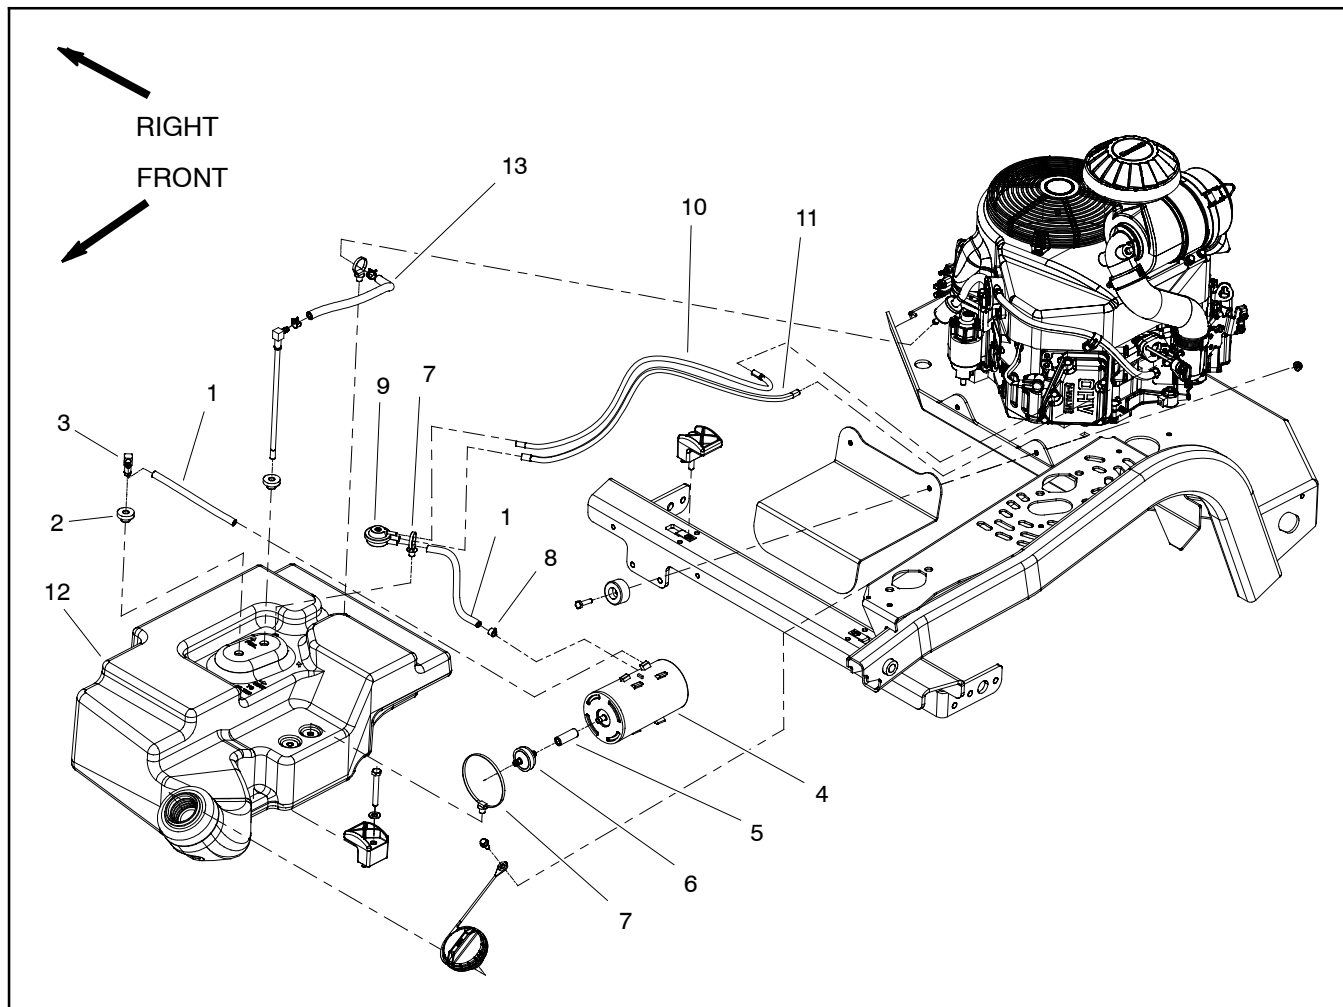

Figure 14
Disassembly (Fig. 14)
3. Remove fuel evaporative control system components as needed using Figure 14 and the following as guides.
Assembly (Fig. 14)
1. Install all removed fuel evaporative control system components using Figure 14 as a guide. Make sure that evaporative system fuel hoses are not kinked and are properly secured after installation.